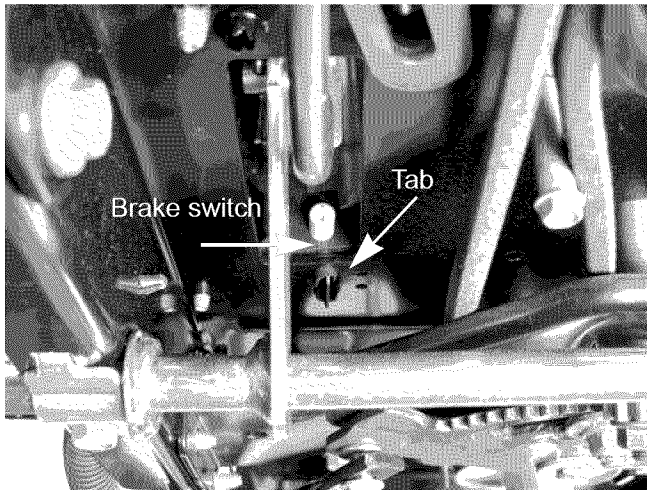

Figure 7.13
2. Squeeze the tab on the underside of the brake switch with a pair of pliers, while pushing up on the brake switch. See Figure 7.13.